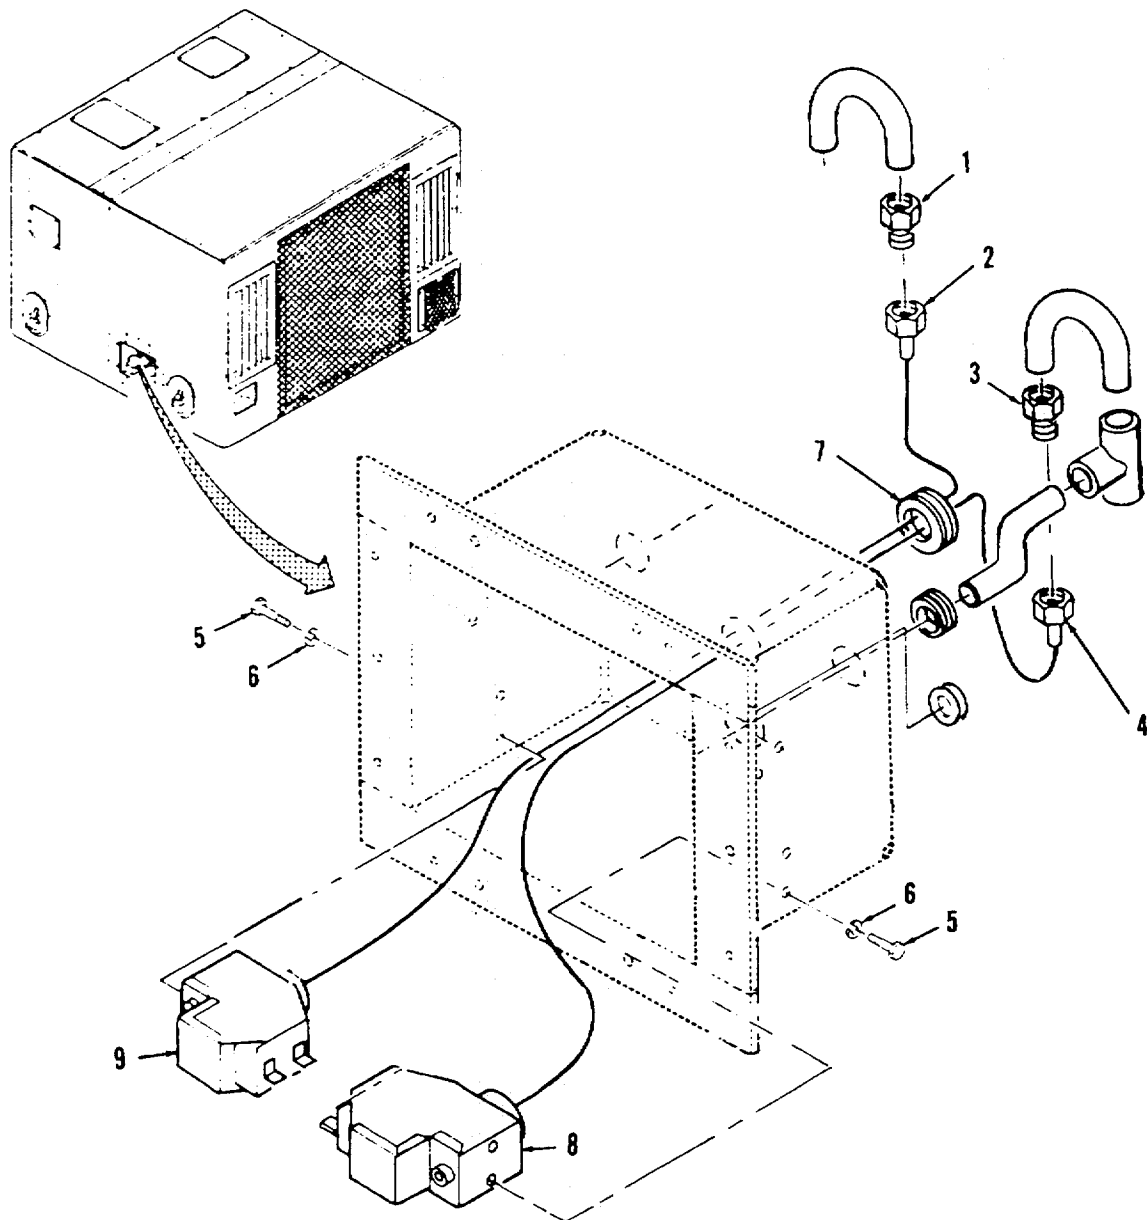

Figure 4-18. Pressure Switches (S5) and (S6).
- (1) Install manifold gauges to service valves.
- (2) Press and release reset button to be sure that each switch is not tripped.
- (3) Tag and disconnect leads on each pressure switch.
- (4) Using multimeter set on lowest OHMS scale, check for continuity between terminals 1 and 2 on each pressure switch. Check that continuity exists on both pressure switches if gauge reading is more than 15 psi or less than 480 psi.
- (5) If there is no continuity, replace pressure switch.
**b. Removal** (Refer to Figure 4-18).
- (1) Remove cable ties as needed.
- (2) Tag and remove all wiring attached to pressure switches.
- (3) Restrain adapter (1) and loosen flare nut (2).
- (4) Restrain adapter (3) and loosen flare nut (4).
- (5) Remove flare nuts (2) and (4) from adapters (1) and (3).
- (6) Remove four screws (5), four lock washers (6), and grommet (7).
- (7) Remove pressure switches S5 (8) and S6 (9).